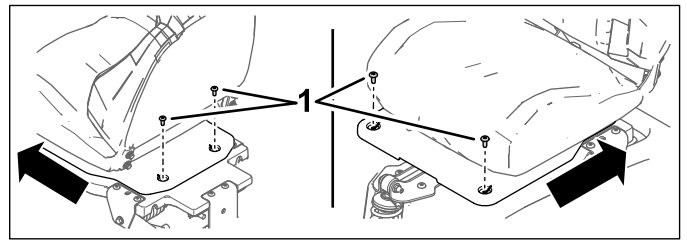

Figure 2
- B. Access the 4 Torx bolts that secure the seat pan to the frame. Remove the bolts, then carefully remove and set aside the seat assembly (Figure 2).